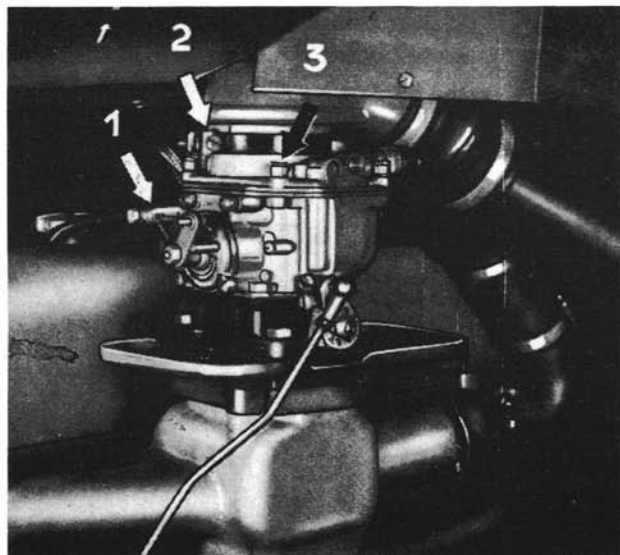

Fig. 1 Carburetor engine M 180
- 4 Loosen nuts and remove carburetor together with asbestos seals and cover plate. Fig. 1.